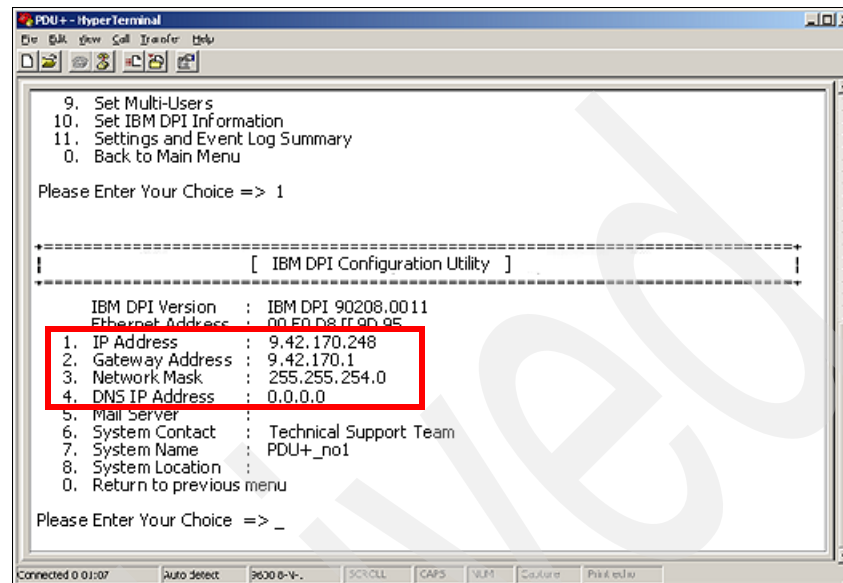

Figure 8-11 IP Address Settings menu
6. When completed, you can then access the PDU+ from the network, as shown in Figure 8-11.